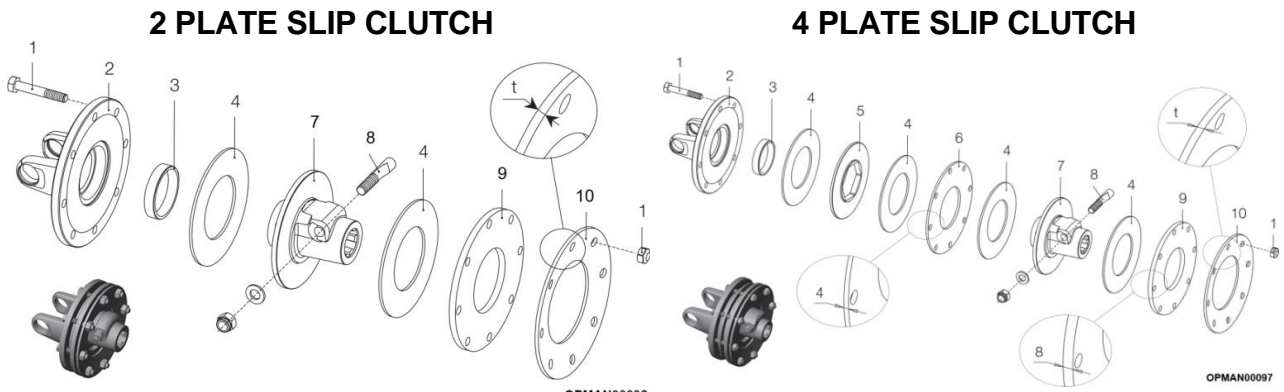

Figure 5.35
Figure 5.35 gives a full breakdown of the slip clutch and where they can be found on these machines.
- 5.4.1.6 Assemble in sequence the other parts as shown in Figure 5.35